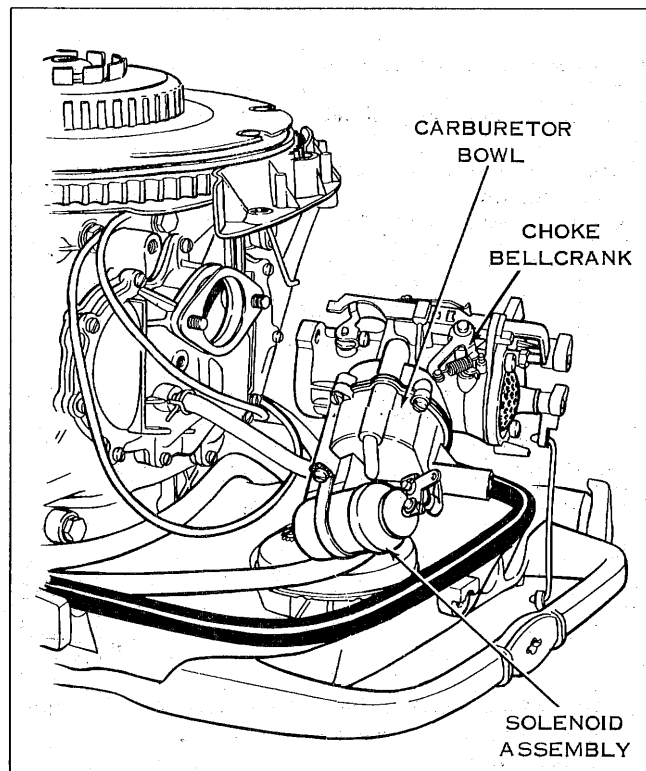

FIGURE 5
11. Install new carburetor bowl, gasket and solenoid assembly on carburetor. See Figure 5.